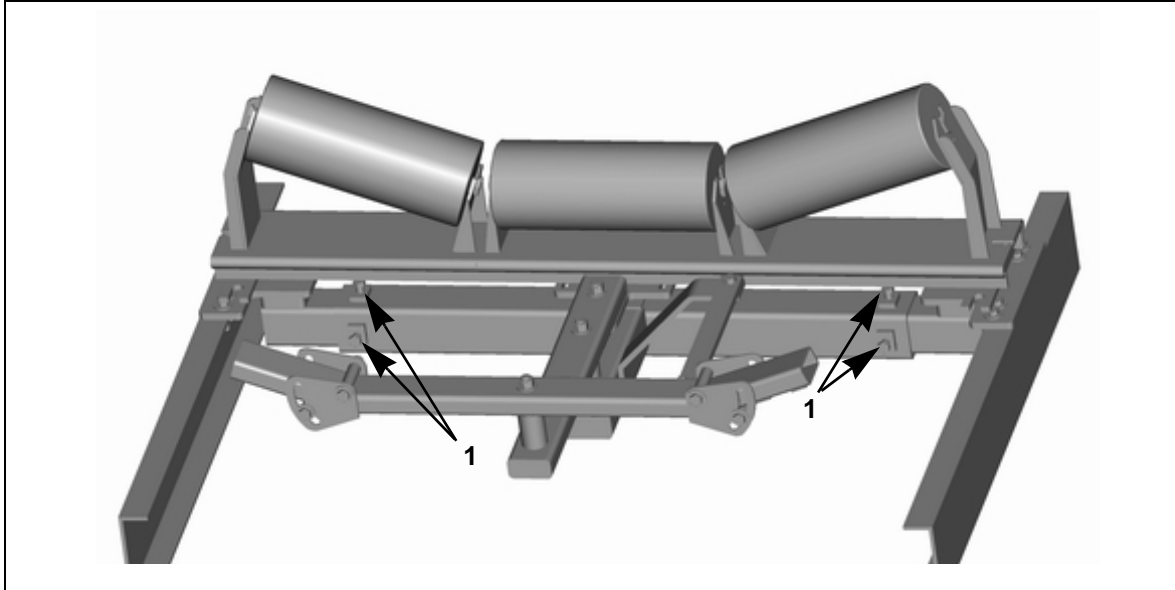

Fig. 21: Tighten the arresting screws
10. Tighten the arresting screws (1, Fig. 21).